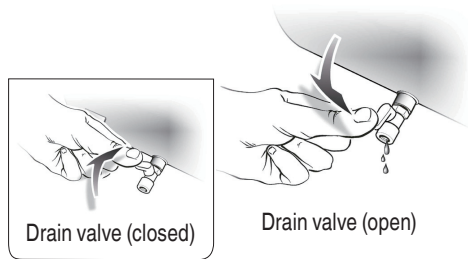

Fig. 12
To drain the tank: (Fig. 12)
- Open the drain valve located at the lower part of the tank (Fig. 12). Tank pressure should be below 10 psi when draining the tank.